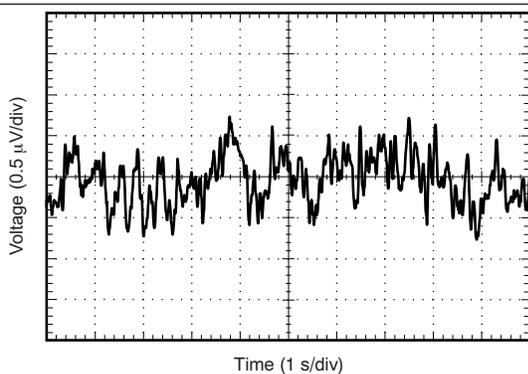

Figure 11. 0.1-Hz to 10-Hz Input Voltage Noise
0.1-Hz to 10-Hz Input Voltage Noise (5.5 V)	<a href="#">Figure 11</a>